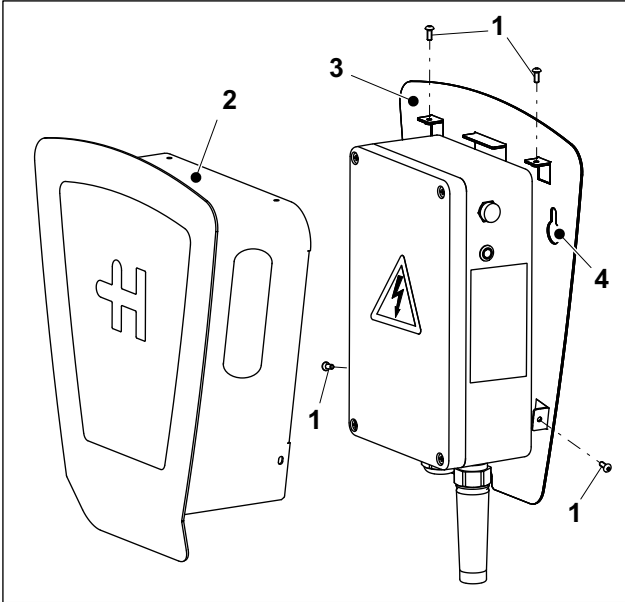

Fig. 7 Heidelberg Wallbox Home Eco with cover
10. Replace the cover, fasten it with the four screws M4x10 (Fig. 7/1) and tighten them (1.8 Nm). The four screws are included in the enclosed accessories.